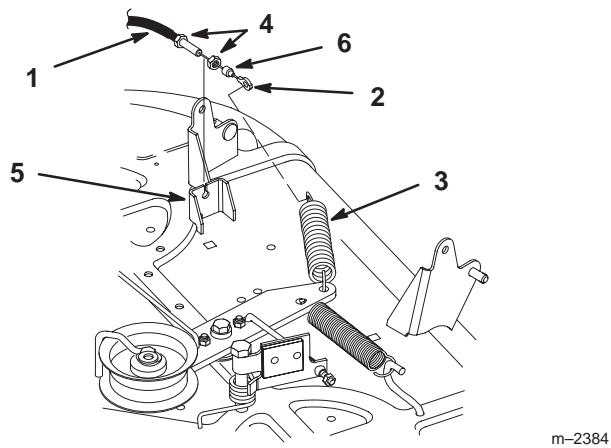

Figure 45
10. Remove the rubber wiper and first jam nut. Thread the second jam nut onto the PTO cable all the way. Route the cable through the slot in the deck bracket and thread the second jam nut onto the cable (Fig. 45).
11. Hook the end of the PTO cable onto the idler spring (Fig. 45).